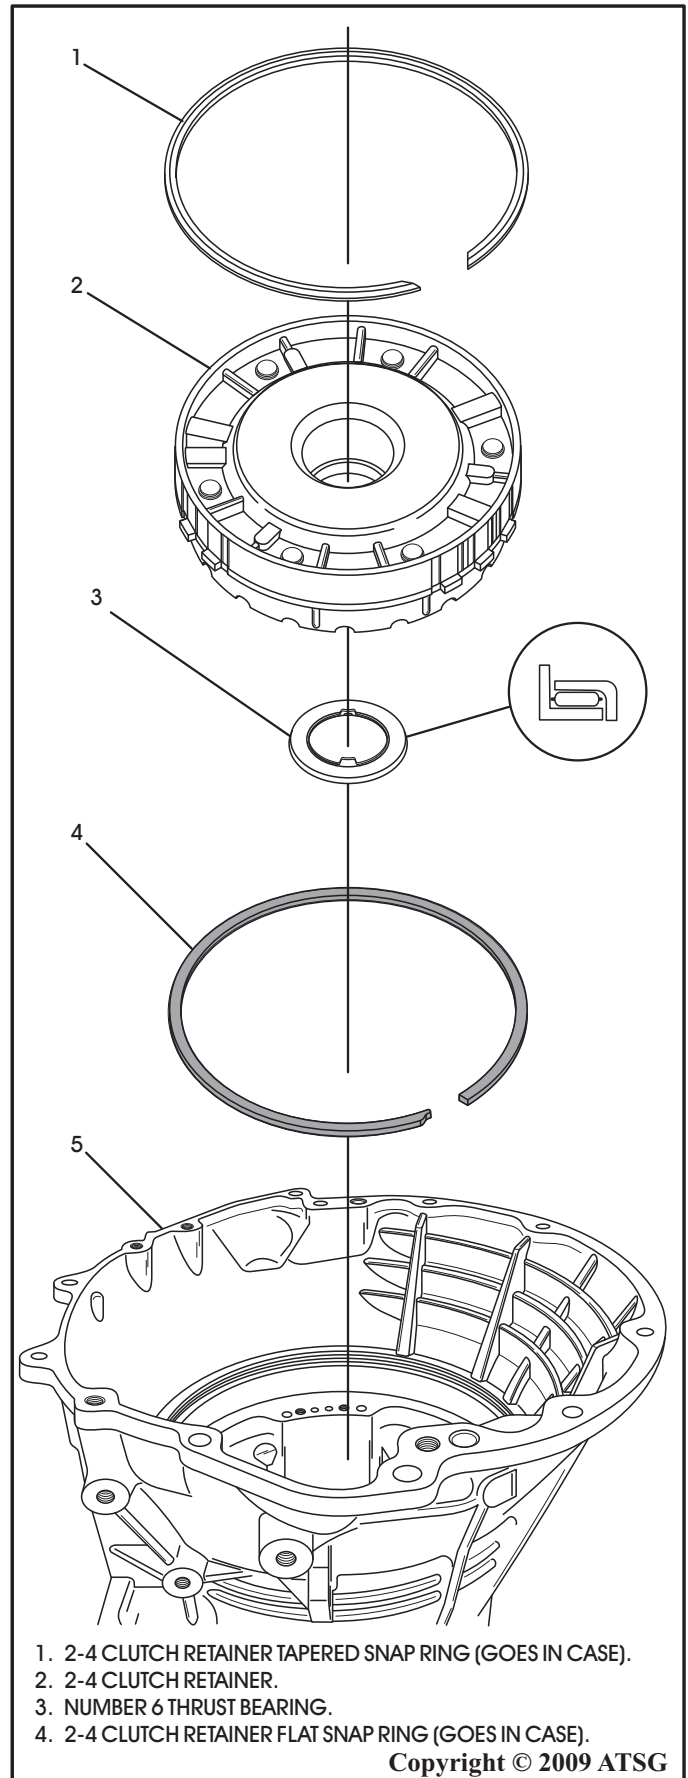

Figure 118
32. Install the 2-4 clutch retainer flat snap ring into lower groove in the transmission case. Refer to Figure 118.
33. Install the number six thrust bearing assembly onto the bottom of 2-4 clutch retainer in the direction shown in Figure 118, and retain with a small amount of TransJel®.
34. Install the 2-4 clutch retainer into the case as shown in Figure 118.
35. Install the 2-4 clutch retainer tapered snap ring in case with taper facing up (See Figure 118). Ensure snap ring openings face valve body.